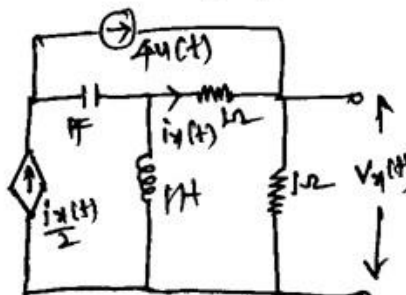

fig 7.2
10. For the circuit shown in fig.7.2 Find $V_o(t)$ using convolution theorem.